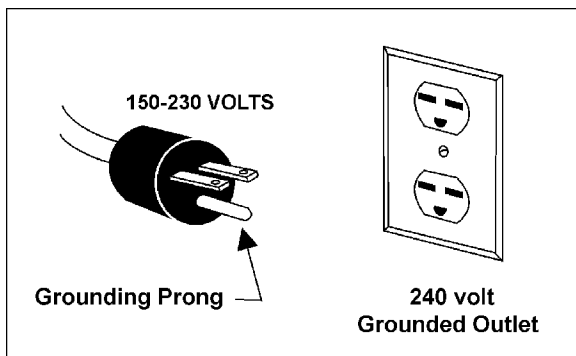

Figure 24
- The 115V attachment plug supplied with the band saw must be replaced with a UL/CSA listed plug suitable for 230V operation, as shown in Figure 24. Contact your local authorized JET service center or qualified
- The band saw with a 230 volt plug should only be connected to an outlet having the same configuration (Figure 24). No adapter is available or should be used with the 230 volt plug.